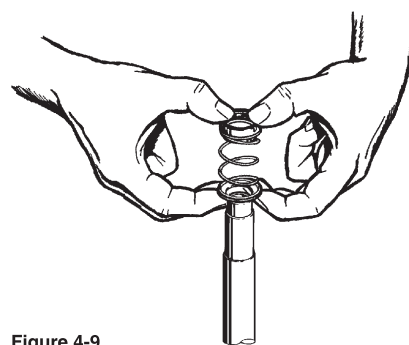

Figure 4-9
19. Remove the Seal Rotating Element (#12) from the shaft. Refer to Figure 4-9. The element normally adheres tightly to the shaft, and some force may be necessary to remove it. This is common, and if care is taken,
18. Remove the Seal Rotating Element (#12) from the shaft. Refer to Figure 4-9. The element normally adheres tightly to the shaft, and some force may be necessary to remove it. This is common, and if care is taken, the element can be reassembled and reused. **It is recommended that a new rotating element be used for reassembly.** DO NOT attempt to remove the seal using a screwdriver or other sharp object. Extensive damage to the shaft or element could occur.
20. Before the Inlet Cover (#1 or #1IN) can be removed, the four (4)